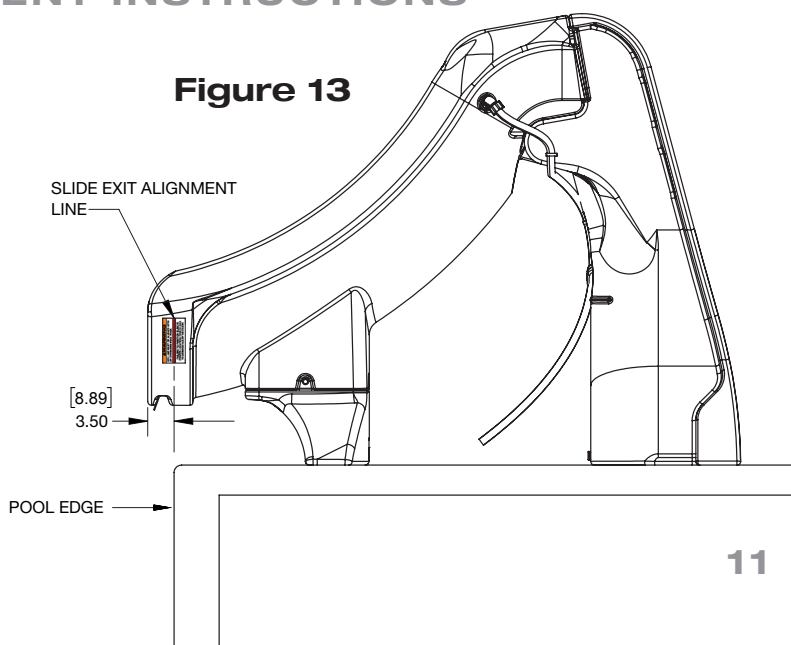

Figure 13
1. Place the assembled slide on the deck in a location that meets the requirements detailed in Manufacturer's Placement instructions on pages 13, 14 and 15. The Slide may be angled slightly providing all dimensions are maintained as noted in the Manufacturer's Placement Instructions. **The red lines on the sides of the runway exit warning label must be aligned with, or overhanging the edge of the pool (Figure 13).**
1. The critical dimensions for placement of the SlideAway™ are shown in **Figures 13, 14 and 15**.
- A. The red lines on the sides of the runway exit must be aligned with, or overhanging the pool edge, see **Figure 13**.